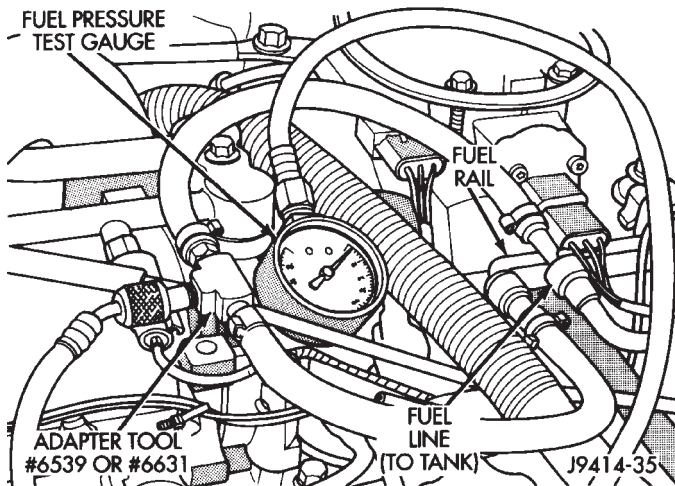
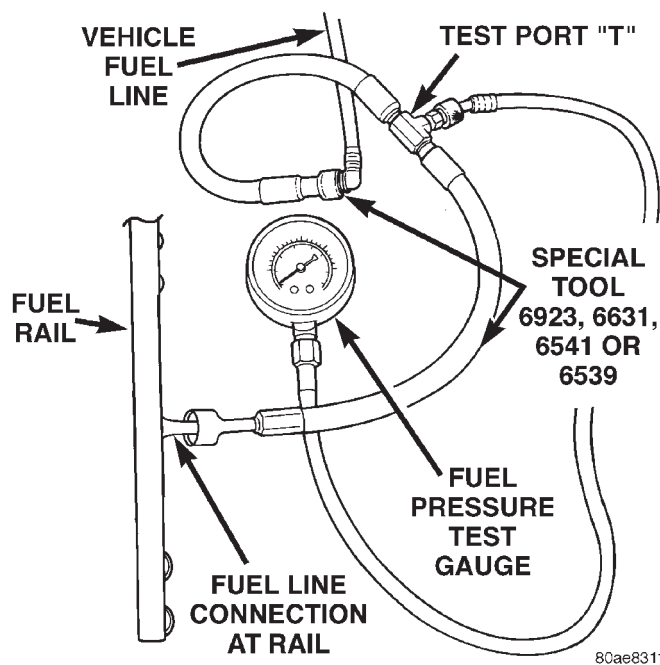

Fig. 8 Connecting Adapter Tool—Typical
Fig. 9 Connecting Adapter Tool—Typical
(1) Disconnect the fuel inlet line at fuel rail. Refer to Fuel Tubes/Lines/Hoses and Clamps in this section of the group for procedures. On some engines, air cleaner housing removal may be necessary before fuel line disconnection.
(2) Obtain correct Fuel Line Pressure Test Adapter Tool Hose. Tool number 6539 is used for 5/16" fuel lines and tool number 6631 is used for 3/8" fuel lines.
(3) Connect correct Fuel Line Pressure Test Adapter Tool Hose between disconnected fuel line and fuel rail (Fig. 8) or (Fig. 9).
(4) Connect the 0-414 kPa (0-60 psi) fuel pressure test gauge (from Gauge Set 5069) to the test port on the appropriate Adaptor Tool. **The fittings on both tools must be in good condition and free from any small leaks before performing the proceeding test.**
(5) Start engine and bring to normal operating temperature.
(6) Observe test gauge. Normal operating pressure should be $339 \text{ kPa} \pm 34 \text{ kPa}$ ($49.2 \text{ psi} \pm 5 \text{ psi}$).
(7) Shut engine off.
(8) Pressure should not fall below **30 psi for five minutes.**
(9) If pressure falls below 30 psi, it must be determined if a fuel injector, the check valve within the fuel pump module, or a fuel tube/line is leaking.